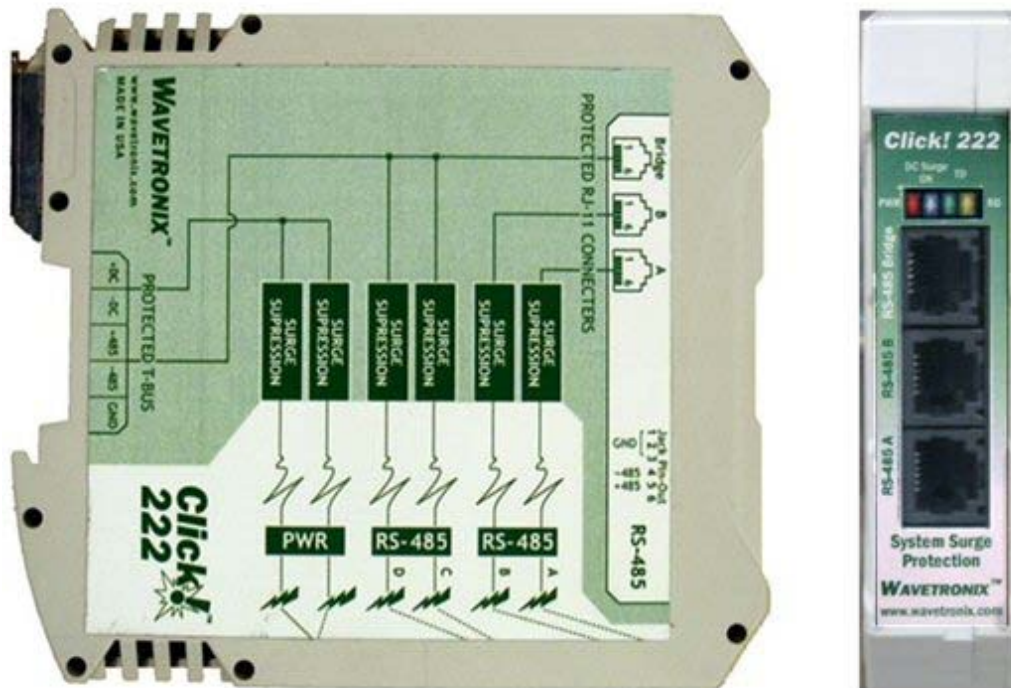

Figure 2.4 – System Surge Protection
2. Open the insulation displacement connector using a screwdriver. Insert the wire leads into the bottom side of the plug-in terminal according to the color code show in the following table and Figure 2.4. Make sure the wires are bottomed in the terminal.